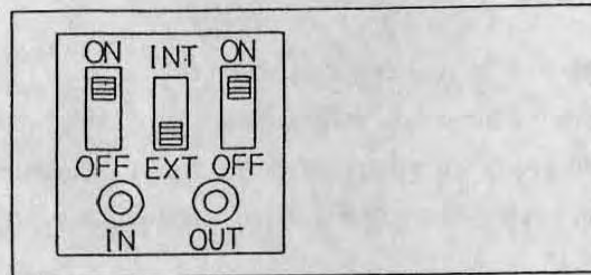

Fig. 7
- (1) Place the middle one of three slide switches in the "EXT" position as shown in Fig. 7. Place the other slide switches in the "ON" position.
- (1) Place the middle one of three slide switches of a new cabinet in the "EXT" position. Place the other slide switches in the "ON" position (See Fig. 7 on page 9).